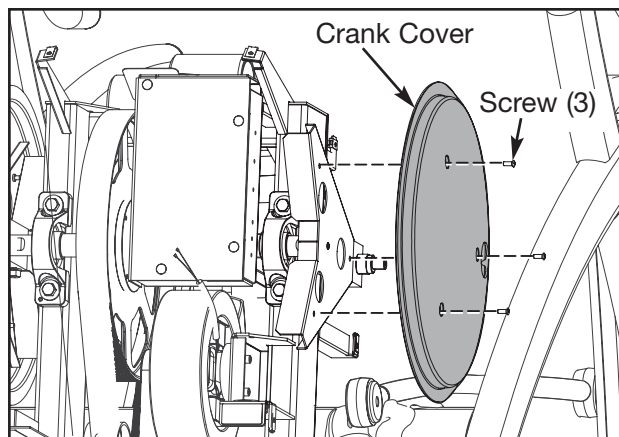

Figure 6
- A. Using a Phillips head screwdriver, remove the three screws securing each crank cover in place. See Figure 6.